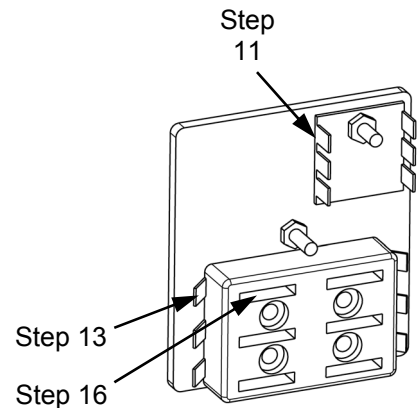

Figure 6
13. Locate the shorter fuse block to switch wire harness (9). Connect 90 degree connector of wire harness to an empty fuse terminal location (**Figure 6**).
16. Install 2 amp fuse (2) into fuse block location selected in Step 13 (**Figure 6**).